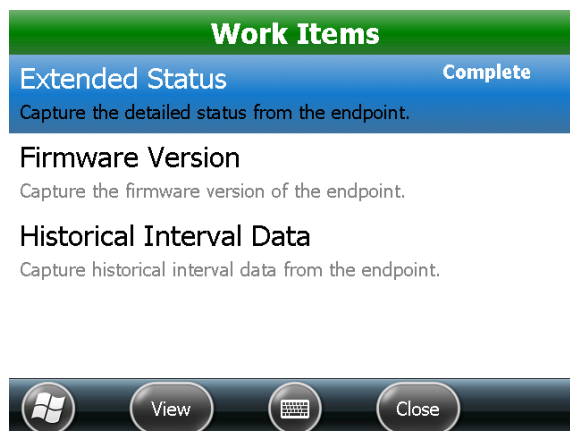

Figure 40: Complete
*"Complete" displays when data collection is finished and the **View** button becomes active. See Figure 40.*